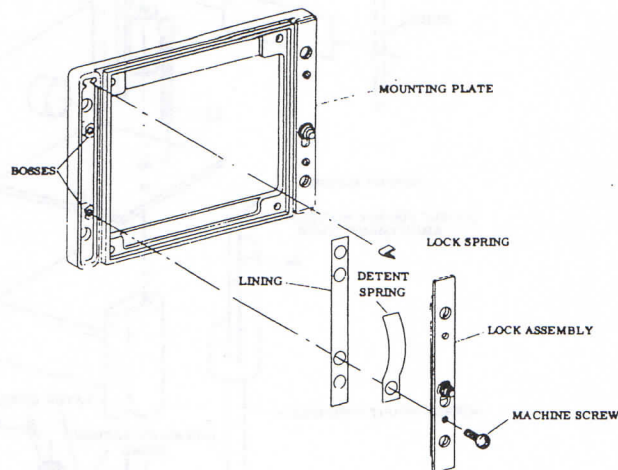

Figure 1-5. MOUNTING PLATE REASSEMBLY
1. Mounting Plate (Figure 1-5)